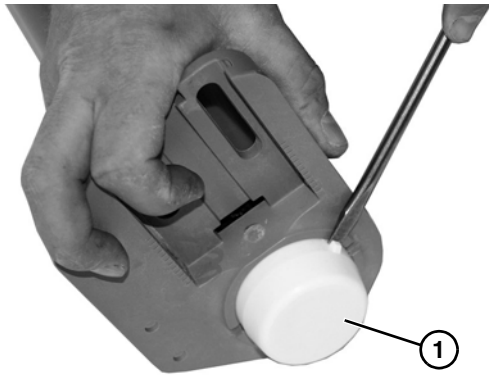

Figure 44
- Remove the bearing cover (Figure 44, item 1). Repeat on opposite side.